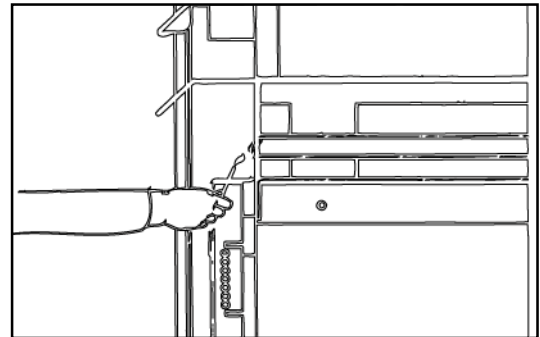

Figure 28
- The venting system should be tested periodically to ensure proper operation. This can be done with a match while the appliance is operating. Locate the draft tube between the glass frame and top. See Figure 28.